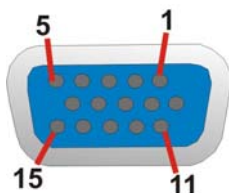

Figure 3-31: VGA Connector
- CN Pinouts:** See **Figure 3-31** and **Table 3-32**